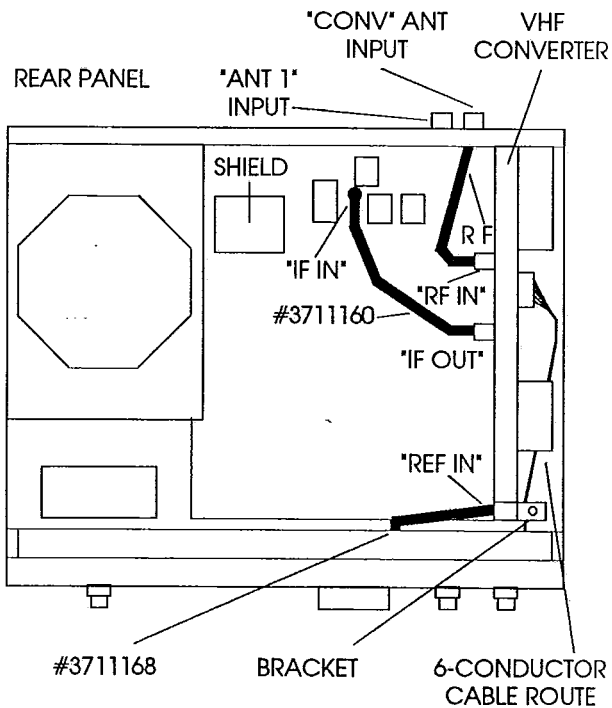

FIGURE 5 R8 TOP VIEW
8) Position the R8 receiver so it rests on its bottom chassis with front panel facing towards you. Plug the unconnected end of the 26" 'REF' coaxial cable #3711168, into the 'REF IN' connector located on the VHF converter assembly as shown in Figure 5.
9) Locate the factory installed coaxial cable connected to the rear panel 'CONV' antenna input connector. Disconnect the terminal end of this coax from the Front End Board connector. Plug the coax cable into the 'RF IN' terminal of the VHF Converter as shown in Figure 5.